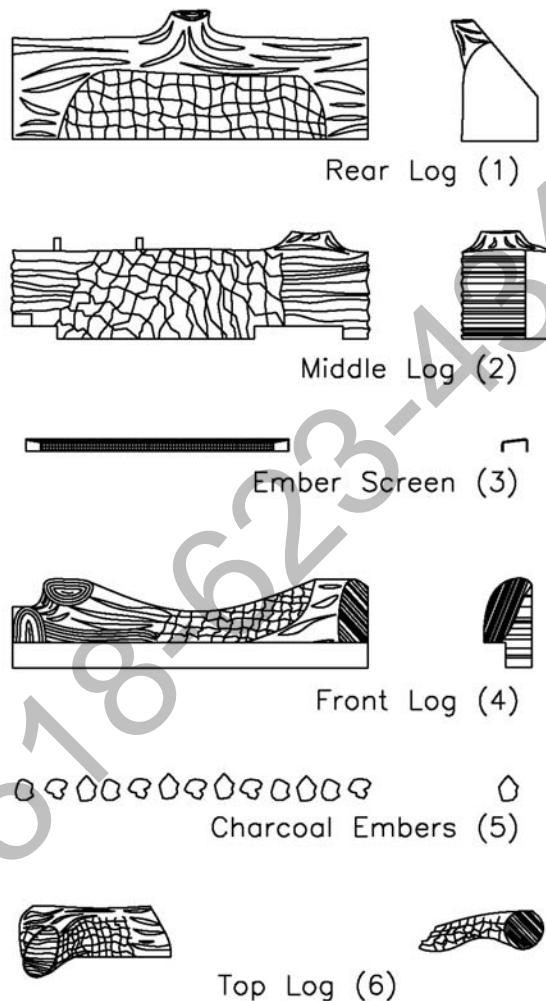

Figure 6
Refer to figures 6 & 7 for log set assembly
Open door using the 5/32 allen wrench. Loosen the screw that secures the door to the firebox by turning it counterclockwise. Pull the door open by grabbing the top edge of door frame. Take care not to chip the enamel or to damage the log set when removing the log set from the firebox. The log set assembly will be in four pieces along with the charcoal embers as shown in *Figure 6*. First, remove the Top Log(6) by pulling it up off the Middle Log(2) and out of the firebox. Next remove the charcoal embers. Then lift upwards and pull the Front Log(4) out of the firebox. Next remove the ember screen(3) from the burner tube. Grip the Middle Log(2) and lift upward, off the burner tube holder, and out of the firebox. The Rear Log(1) can then be removed from the firebox. Place the logs and charcoal embers in a safe area where they will not be